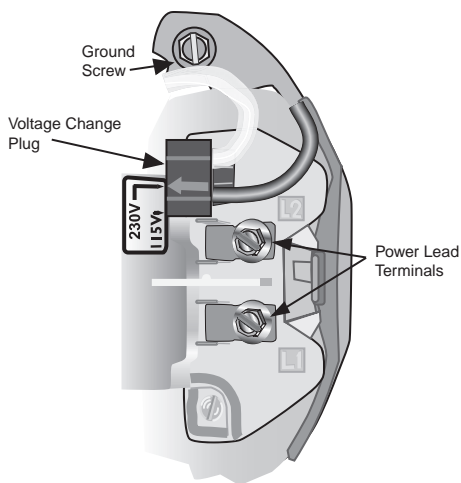

Figure 6 – Voltage set to 230 volts, Plug Type.
1. Connect ground wire first. Connect the ground first, then to green grounding terminal provided under motor canopy (see Figure 6) identified as GRD. Make ground connection to this terminal. **Do not** connect motor to electrical power supply until unit is permanently grounded; otherwise serious or fatal electrical shock hazard may be caused.